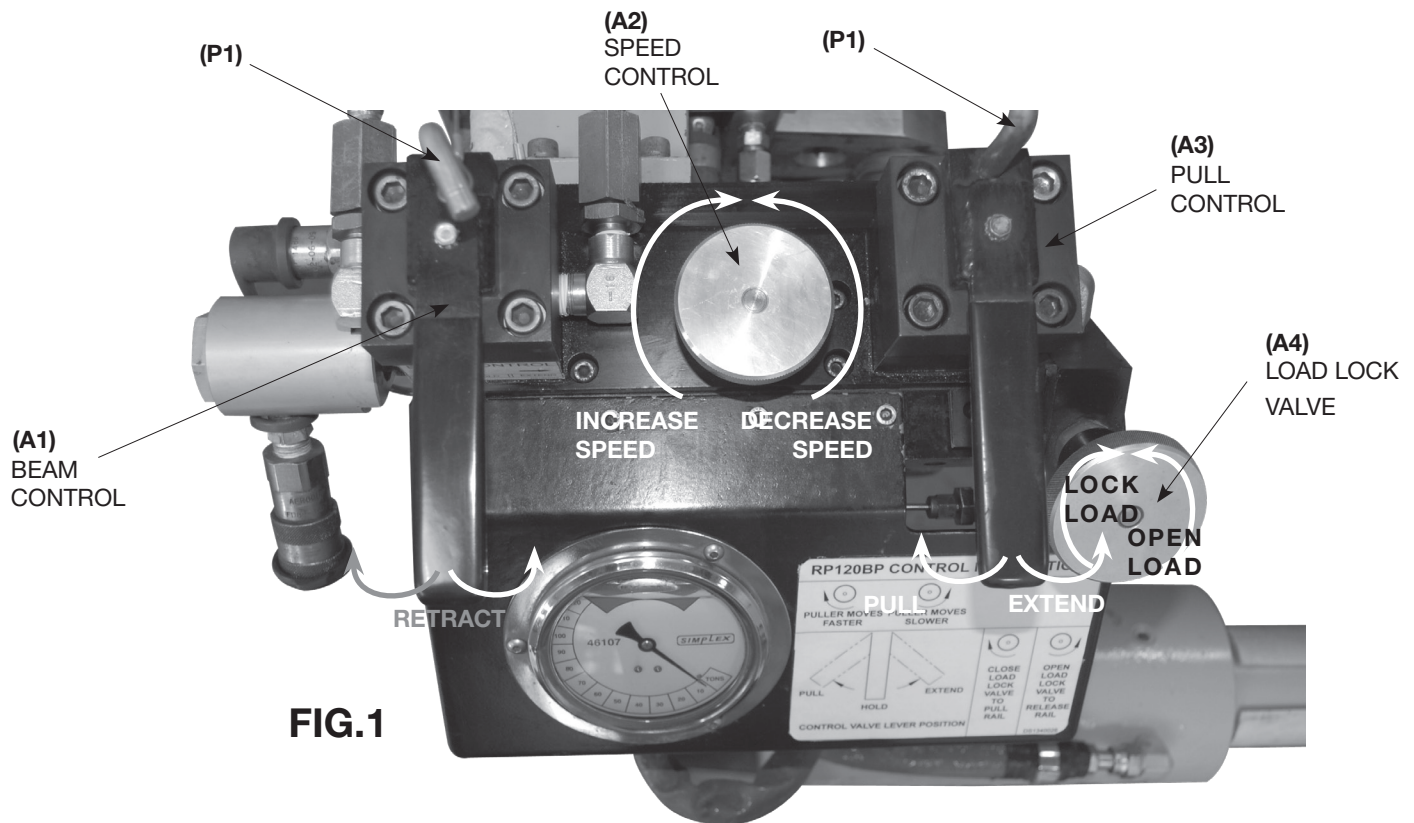

FIG.1
NOTE: REMOVE THE LOCK PINS {(P1) IN FIG. 1} WHEN SHIFTING CONTROL HANDLES FOR SAFETY, REPLACE WHEN VALVES ARE NOT IN USE.
1. SHIFT THE BEAM CONTROL VALVE {(A1) IN FIG. 1} TO THE EXTEND POSITION.
2. TURN THE SPEED CONTROL VALVE {(A2) IN FIG. 1} CLOCKWISE UNTIL THE BEAM EXTENDS TO CLOSE AND SET THE SWING ARMS. AS SOON AS THE SWING ARMS ARE CLOSED, REOPEN THE CONTROL VALVE BY TURNING COUNTER CLOCKWISE.
3. CLOSE THE LOAD LOCK VALVE {(A4) IN FIG. 1} BY TURNING THE KNOB CLOCKWISE.
5. SHIFT THE BEAM CONTROL VALVE {(A1) IN FIG. 1} TO THE RETRACT POSITION, AND TURN THE SPEED CONTROL VALVE {(A2) IN FIG. 1} CLOCKWISE UNTIL THE BEAM BEGINS TO RETRACT.
6. WHEN THE BEAM STOPS, SHIFT THE BEAM CONTROL VALVE {(A1) IN FIG. 1} BACK TO THE CENTER POSITION, AND REOPEN THE SPEED CONTROL VALVE {(A2) IN FIG. 1} BY TURNING COUNTER CLOCKWISE.
8. SHIFT THE PULL CONTROL VALVE {(A3) IN FIG. 1} TO THE PULL POSITION AND BEGIN TURNING THE SPEED CONTROL VALVE {(A2) IN FIG. 1} CLOCKWISE UNTIL THE PULLER BEGINS CLOSING THE GAP, MONITOR THE TONNAGE GAUGE FOR PULL FORCE.
NOTE: CONTINUING TO TURN THE SPEED CONTROL {(A2) IN FIG. 1} CLOCKWISE INCREASES THE SPEED AND FORCE OF THE PULL. TURN THE SPEED CONTROL VALVE {(A2) IN FIG. 1} COUNTER CLOCKWISE TO SLOW DOWN THE PULL FOR MEASURING AND CONTROLLING THE GAP IN THE FINAL STAGES OF PULL.
9. AS SOON AS THE GAP IS MADE, SHIFT THE PULL CONTROL VALVE {(A3) IN FIG. 1} BACK TO THE CENTER POSITION, AND TURN THE SPEED CONTROL VALVE {(A2) IN FIG. 1} COUNTER CLOCK WISE.
WITH PTO OFF, SHIFT THE PULL CONTROL VALVE **{{A3} IN FIG. 1}** TO THE EXTEND POSITION. OPEN THE LOAD LOCK VALVE **{{A4} IN FIG. 1}** BY TURNING THE KNOB COUNTER CLOCKWISE. THE PRESSURE READING ON THE TONNAGE GAUGE SHOULD BE ZERO. SHIFT THE PULL CONTROL VALVE **{{A3} IN FIG. 1}** BACK TO THE CENTER POSITION.
2. START PTO. SHIFT THE PULL CONTROL VALVE **{{A3} IN FIG. 1}** TO THE EXTEND POSITION. TURN THE SPEED CONTROL VALVE **{{A2} IN FIG. 1}** CLOCKWISE UNTIL THE PULL CYLINDERS EXTEND. AS SOON AS THEY REACH THEIR FULL EXTENSION, REOPEN THE SPEED CONTROL VALVE BY TURNING IT COUNTER CLOCKWISE. SHIFT THE PULL CONTROL VALVE **{{A3} IN FIG. 1}** TO THE CENTER POSITION.
3. SHIFT THE BEAM CONTROL VALVE **{{A1} IN FIG. 1}** TO THE EXTEND POSITION. TURN THE SPEED CONTROL VALVE **{{A2} IN FIG. 1}** CLOCKWISE UNTIL THE BEAM EXTENDS TO THE CLAMP. AS SOON AS THE BEAM REACHES THE CLAMP, REOPEN THE SPEED CONTROL VALVE BY TURNING IT COUNTER CLOCKWISE. SHIFT THE BEAM CONTROL VALVE **{{A1} IN FIG. 1}** TO THE CENTER POSITION.
5. SHIFT THE BEAM CONTROL VALVE **{{A1} IN FIG. 1}** TO THE RETRACT POSITION. TURN THE SPEED CONTROL VALVE **{{A2} IN FIG. 1}** CLOCKWISE UNTIL THE BEAM FULLY RETRACTS. AS SOON AS THE BEAM FULLY RETRACTS, REOPEN THE SPEED CONTROL VALVE BY TURNING IT COUNTER CLOCKWISE. SHIFT THE BEAM CONTROL VALVE **{{A1} IN FIG. 1}** TO THE CENTER POSITION.
4. Open the release screw valve{(A6) on Pg. 4} on the back of the intensifier manifold by turning counter clockwise 1 to 1.5 turns using pliers and a rag to protect yourself from possible oil spray. Shift both control valves{(A1) & (A3) in Fig. 1 on Pg. 5} through all positions to release remaining trapped pressure.